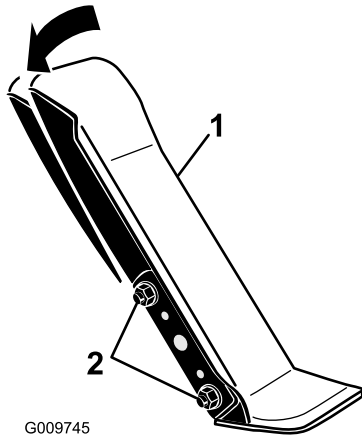

Figure 59
1. Loosen the 2 nuts and bolts securing the left side of the traction pedal to the bracket (Figure 59).
2. Pivot the pedal to the desired operating angle and tighten the nuts (Figure 59).